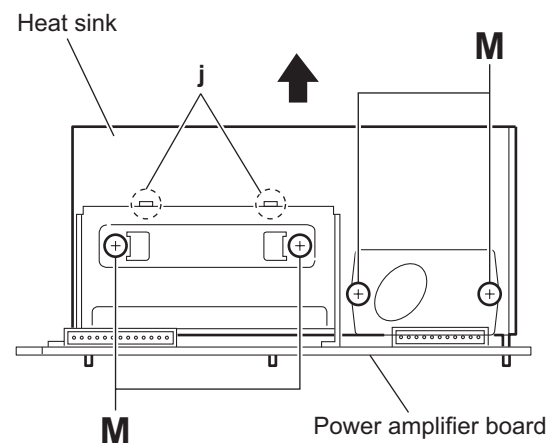

Fig.13
- (2) From the forward side of the power amplifier board, remove the four screws **M** attaching the heat sink. (See Fig.13.)
- (3) Disengage the joints **j** and remove the heat sink in the direction of the arrow. (See Fig.13.)